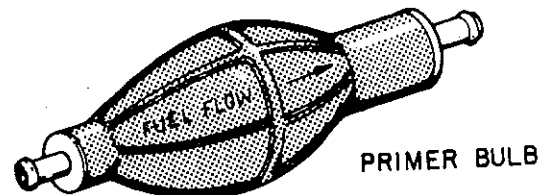

Figure 6. Primer bulb permits fuel to flow only one direction.
- (4) Squeeze primer bulb by hand until firm to force fuel into the carburetor. (See Figure 6).